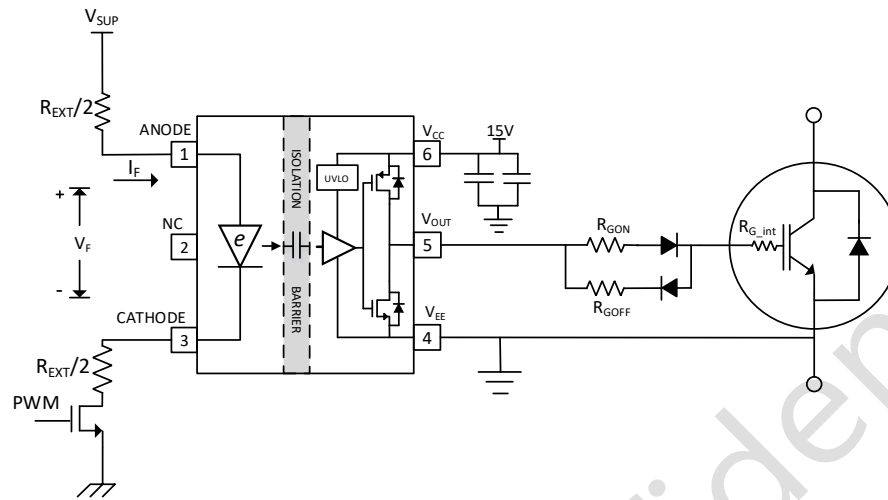
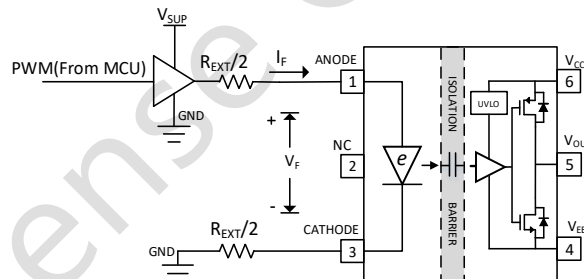
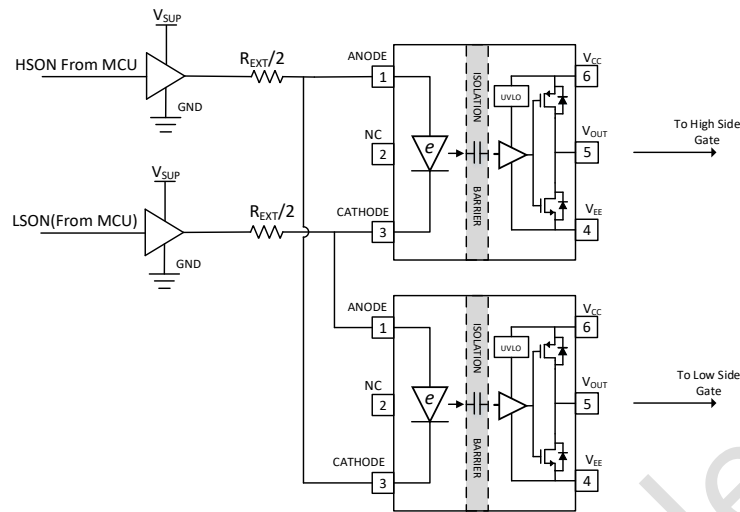

Figure 5.1 NSi6801 typical application circuit with NMOS driving input stage
Figure 5.2 NSi6801 typical application circuit with one buffer driving input stage
Figure 5.3 Interlock Protection using NSi6801
NSi6801 requires 7mA to 16mA bias current that flows into the e-diode for normal operation. The PWM from MCU is not suitable to provide such current directly and external circuit is needed. In Figure 5.1, one NMOS is used with split input resistors. Another input drive method is using one buffer, as shown in Figure 5.2. The details to calculate input drive parameters are in Chapter 5.3.
For applications to drive power transistors in half bridge configuration, two NSi6801 can be used. Interlock protection is possible as shown in Figure 5.3. If the controller has some mistake, leading to negative dead time, the output PWM of NSi6801 is adjusted to avoid power transistor shoot through. The input side reverse breakdown voltage of NSi6801 is greater than 6.5V, which supports interlock protection of 3.3V or 5V PWM signal source.
The recommended forward current range for NSi6801 is 7mA to 16mA. The value of input resistor, buffer supply voltage and buffer internal resistance influence the forward current, as shown in Equation (1). In Figure 5.1, R_{Buffer} is the on-resistance of the external NMOS. In Figure 5.2, R_{Buffer} is the buffer output impedance in output “High” state. In Figure 5.3, R_{Buffer} is the summary of buffer output impedance in “High” and “Low” state.